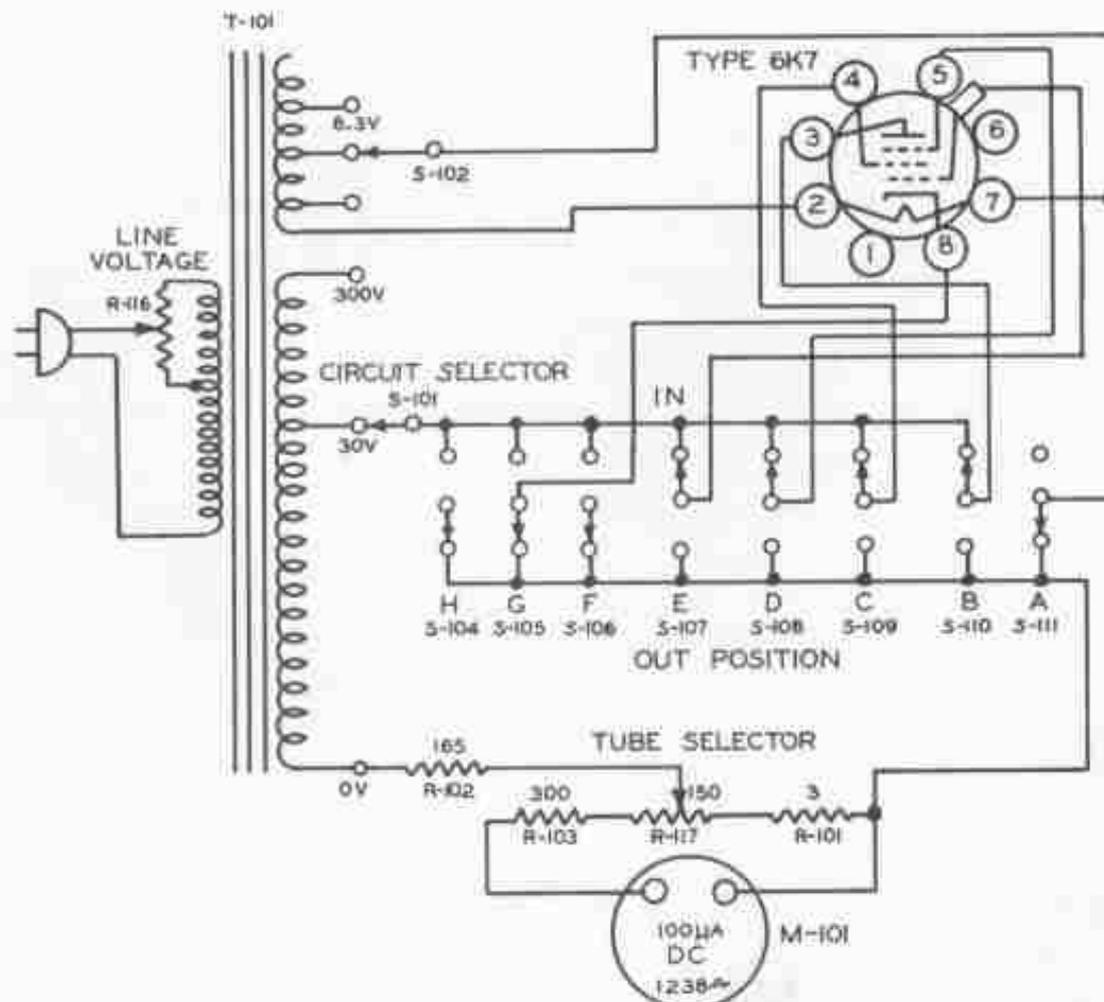

Figure 2-1. Simplified Schematic, Tube Test Section of Tube Tester
a. BASIC CIRCUITS OF TUBE TESTER TV-4A/U. (See figure 2-1.) - The major circuit sections of the Tube Tester are shown in the simplified schematic, figure 2-1. Energy for all tube elements is supplied by the power transformer through the FILAMENT SELECTOR switch, CIRCUIT SELECTOR switch, and TUBE SELECTOR control to the socket panel. For purposes of explanation, the unit can be subdivided into the following basic circuit sections.
(1) POWER TRANSFORMER. - The transformer supplies all potentials for the tube test functions as well as for the capacity meter ranges. Basically, this transformer consists of a primary winding and three secondary sections with a total of 29 terminals. All windings are accurately wound so that a single line control of the potentiometric type in the primary circuit can be used to adjust all of the secondary voltages.
(2) FILAMENT SELECTOR. - This consists of a 17-position switch with each contact connected to a transformer tap on the filament winding. Filament voltages can thus be individually selected in steps from 1.1 volts to 117 volts by rotating the switch knob. The operator should realize that it is important to index this switch correctly as the first operation in testing a tube.
(4) TUBE SELECTOR. - This is a wire-wound potentiometer used for controlling the sensitivity of the indicating meter for all tube test emission readings. This control must always be indexed to a definite number in accordance with the Tube Sel. column of the Tube Data Index. A wide range of adjustment is necessary on this sensitivity control due to the large variation in different types of vacuum tubes.
(5) ELECTRODE SWITCHES. - As shown in figure 2-1, these switches connect between the socket panel and the electrode energizing circuits, with the exception of the filament circuit. Filament current is not fed through these switches. The switches are used individually or in groups for both tube tests and short tests. The first electrode switch marked A is used particularly for the cathode leakage test on indirectly heated tubes. It also releases the tapped filament connection on those tubes having three filament connections. Tubes of this type are printed in green in the Tube Data Index. The other electrode switches marked B through H are each connected to a socket terminal and control the energization of that terminal. One switch is used for each active tube element. Table 4-3 shows the socket terminal controlled by each switch. The lower right-hand switch marked NORMAL POSITION in figure 1-2 is the meter reversing switch. As it is only used for tests on three or four particular tubes, it is not shown in figure 2-1.
(6) SOCKET PANEL. - The socket panel is actually a separate subassembly and is wired and tested as a complete unit before assembly in the Tube Tester. All socket terminals are wired directly to a single terminal strip, which in turn connects to the electrode switches, as shown in figure 2-1. The tube test sockets in the socket panel are labeled with one of three letters, A, B, or R, and the proper selection is made by noting the pin arrangement of the tube to be tested and by referring to the Sock. column in the Tube Data Index. Generally speaking, those sockets lettered with an R are used for tubes having regular or normal filament connections. Sockets labeled with an A or B are used to test tubes having filament connections which are not normal. A combination socket near the left-hand edge of the socket panel is used for testing all four-prong, five-prong, and six-prong tubes. The large seven-pin socket, next in line, will accommodate both large and small diameter seven-pin bases. The acorn socket is designed to take five and seven radial pin acorn tubes with or without axial contacts. Octal, loctal, and miniature seven- and nine-pin sockets are also available.
(7) SHORT TEST CIRCUIT. - The short test circuit consists of a transformer winding in series with a rectifier which supplies the DC current required for the SHORT INDICATOR neon lamp and also for the LINE CHECK meter reading. Since the indicating meter is a DC milliammeter, a rectifier is required between the transformer and the meter. This rectifier is a type 3A4 miniature tube V-101 connected as a diode. It is mounted inside the equipment with the other components and supplies DC potential for both short test and line check functions.
(8) LINE VOLTAGE. - This is a power type potentiometer for adjusting all test potentials.
(9) INDICATING METER. - This meter is basically a DC milliammeter operating in conjunction with the electron tube rectifier for the LINE CHECK reading. It functions with a full-wave copper-oxide rectifier for capacity readings and is used directly as a DC milliammeter for tube test readings.
The basic principle of operation can be readily understood by referring to the simplified schematic, figure 2-1, showing a 6K7 tube under emission test.